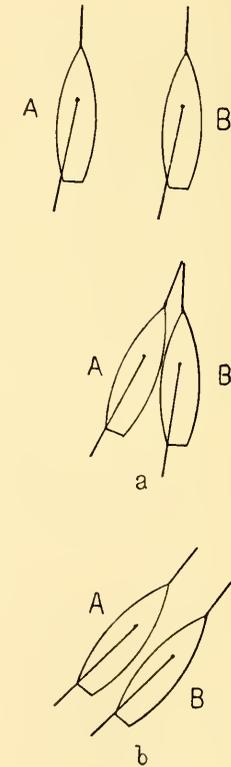

FIG. 67.
Question : (2) If B. draws right abeam with A., and the latter luffs (Fig. 67).